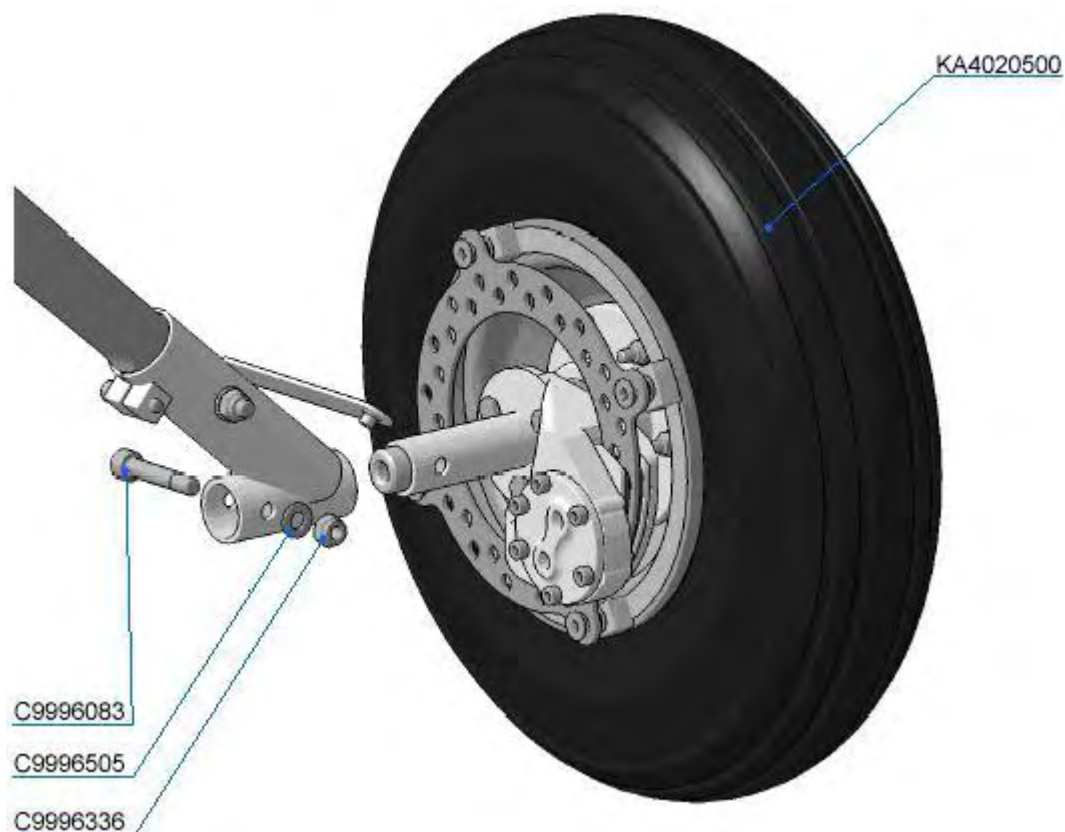
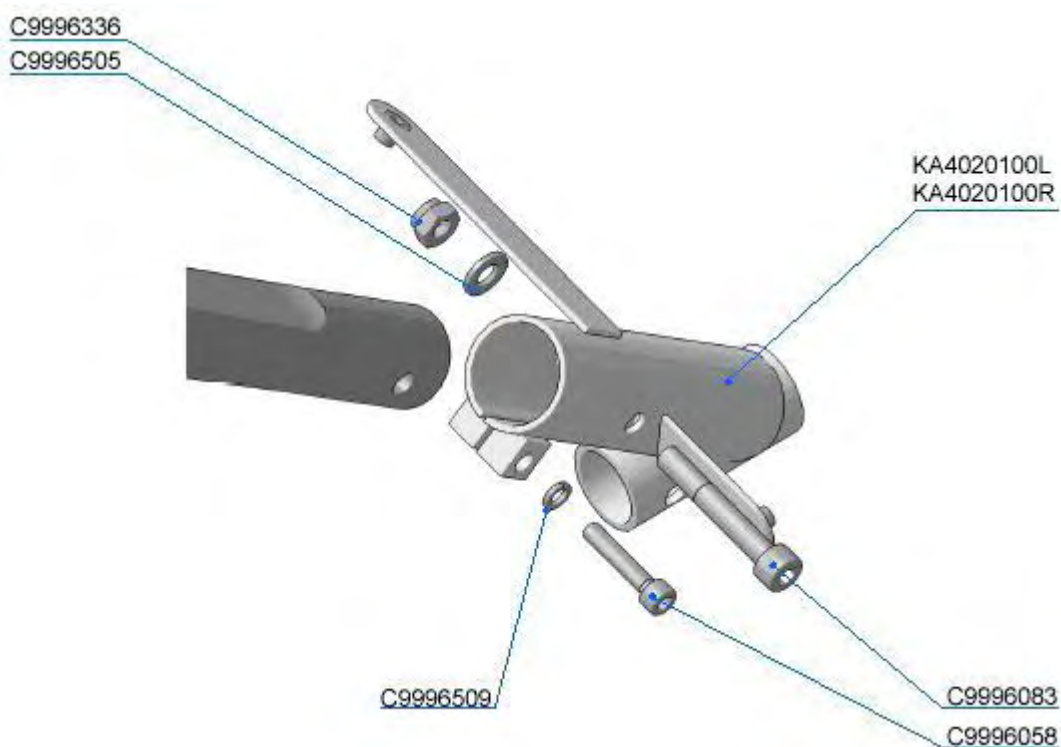

Fig. 6
Fig. 7
Refer to Fig. 6.
Unscrew the nut C9996336 (Self-locking nut DIN 985-M8, regular), Fig. 6, by a 10x13 wrench and wrench 6.
Inspect welding seams for integrity; the wheel attachment KA4020100R(L) (Main wheel attachment (right/left)), Fig. 7, for dents and cracks, mounting holes for integrity and circularity. Replace, if necessary.
Refer to Fig. 7.
Unscrew the nut C9996336 (Self-locking nut DIN 985-M8, regular), Fig. 7, by a 10x13 wrench and hex-nut wrench 6.
Remove the bolt C9996083 (Bolt DIN 912 M8x60-8.8), Fig. 7.
Replace the nut C9996336 (Self-locking nut DIN 985-M8, regular), Fig.7, to a new one.
Mounting of the main wheel attachment is a reverse of items 1 through 4. Tighten the nut (C9996336 Self-locking nut DIN 985-M8, regular), Fig. 7, with a 10x13 wrench and hex-nut wrench 6 to torque 200 lb-in (22.5 Nm), and the bolt C9996058 (Bolt DIN 912 M6x25-8.8) to 80 lb-in (9 Nm).
Set the axle into the main wheel attachment KA4020100R(L) (Main wheel attachment (right/left)), Fig. 7, and match the holes for the bolt C9996083 (Bolt DIN 912 M8x60-8.8), Fig. 6.
Set the bolt C9996083 (Bolt DIN 912 M8x60-8.8), Fig. 6.
Replace the nut C9996336 (Self-locking nut DIN 985-M8, regular), Fig. 6, to a new one. Put a C9996505 (Washer DIN 125 A-8.4 mm VZ) washer under the nut. Tighten the nut to torque 200 lb-in (22.5 Nm) by a 10x13 wrench and hex-nut wrench 6.